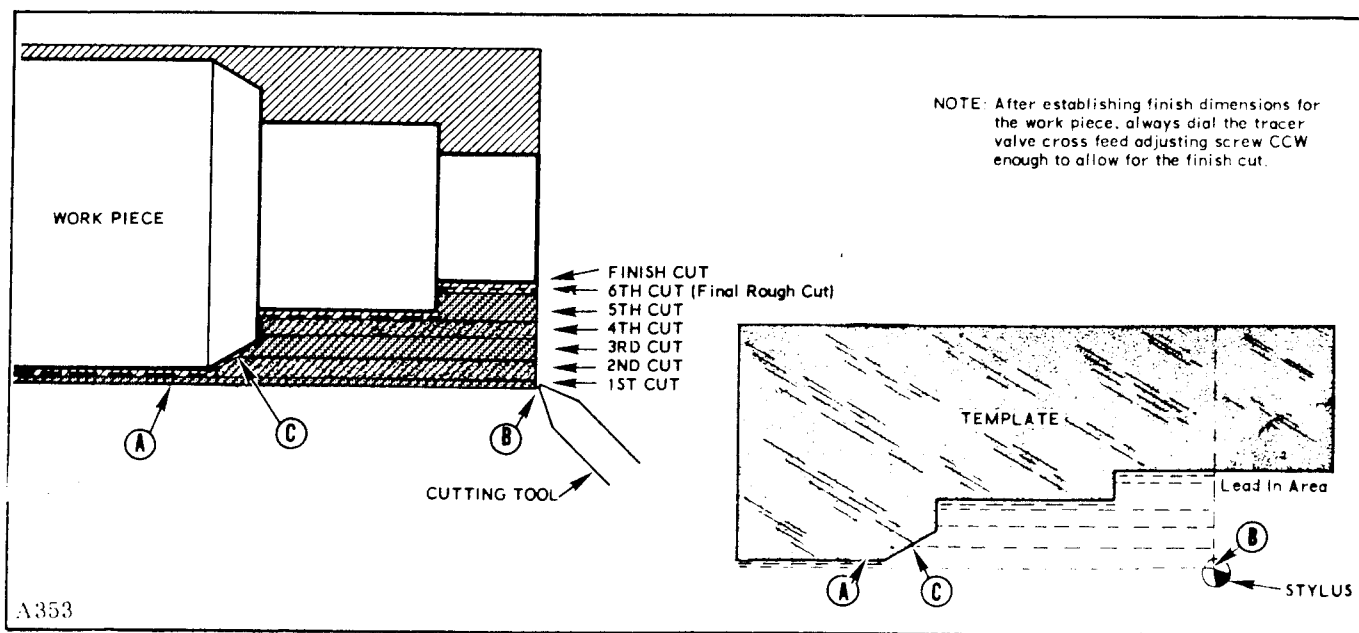

Figure 3-13. Typical Example of Cutting From Bar Stock
3-23. When the work piece is to be cut from bar stock, it is generally faster to make a series of rough cuts before making the finish cut. Figure 3-13 shows a typical example of cutting from bar stock. The cutting operations would be as follows:
- b. Set the stylus at point A (fig. 3-13) near the template. Set the cutting tool at point A on the bar stock. (At this point the tracer slide should be in